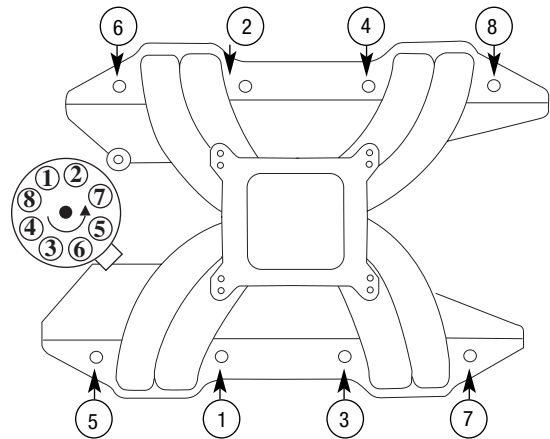

Figure 1
5. Torque all of the manifold bolts in two steps by the sequence shown in **Figure 1** to 25 ft/lbs.